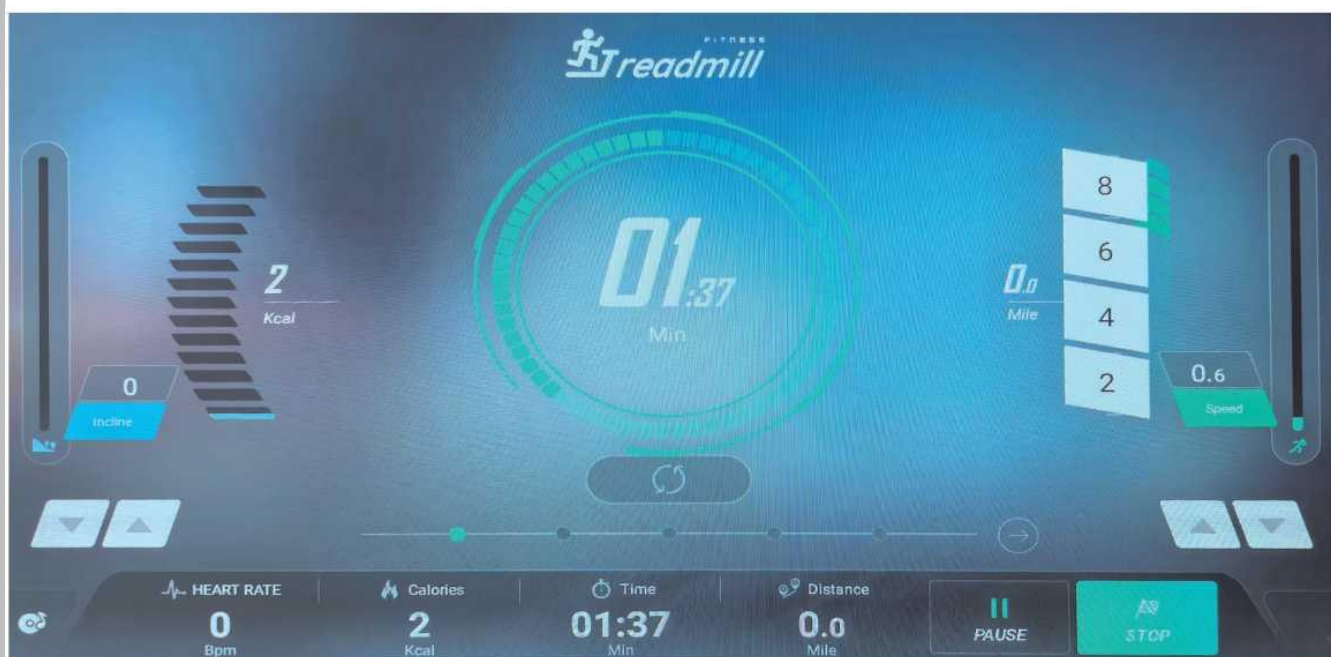

FIG. 10 Sports Page (Speed Adjustusment)
- 6) Speed adjustment - click the speed add or subtract button at the bottom to pop up the speed adjustment operation interface. Slide on the interface to quickly adjust the speed, and it will automatically hide without operation for 5 seconds, as shown in FIG. 10;